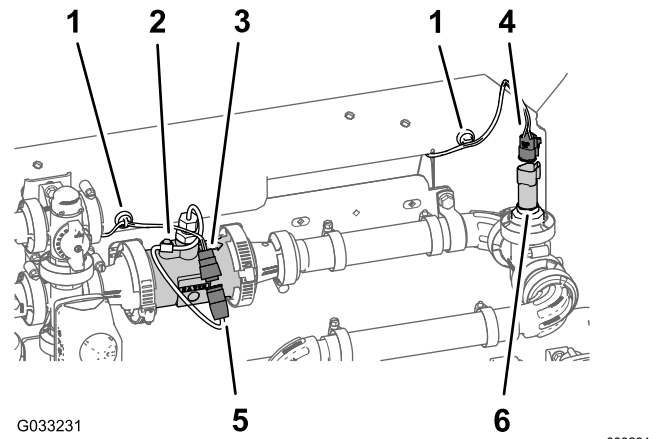

Figure 101
1. Route the connectors of the 203 cm (80 inch) wire-harness branch labeled **Flow Meter** and labeled **Pressure Transducer** rearward of the manifold mount (Figure 101).
2. Connect the 3-socket connector of the 203 cm (80 inch) wire-harness branch for the flow meter (not labeled) into the 3-pin connector of the harness of the flow meter (Figure 101).
3. Connect the 3-socket connector of the 203 cm (80 inch) wire-harness branch for the labeled **Pressure Transducer** into the 3-pin connector of the pressure transducer (Figure 101).
4. Adhere the magnet-harness anchors for the flow meter and the pressure transducer onto the surface of the manifold mount (Figure 101).